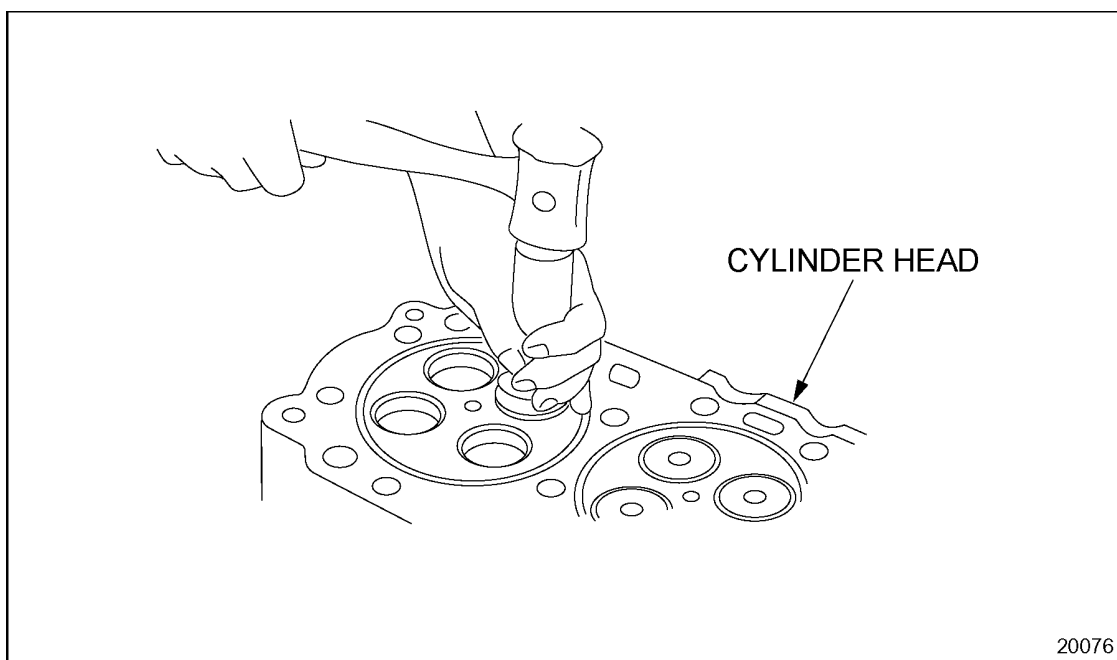

Figure 1-81 Seating Valve Seat Insert
5. Drive the insert solidly into its seat in the cylinder head. See Figure 1-81.